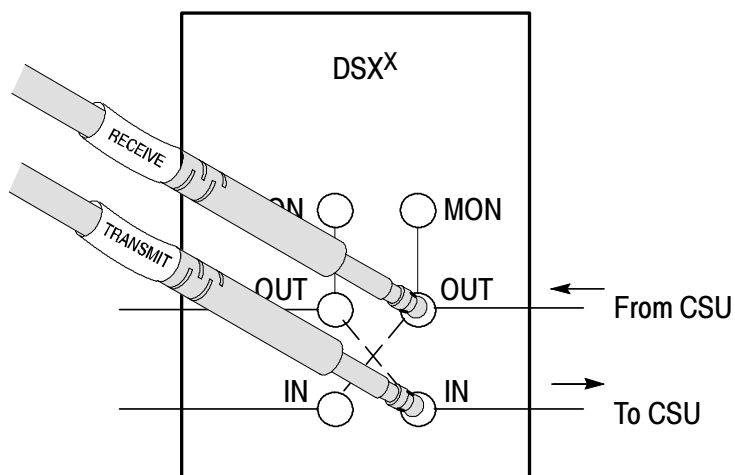

Figure 3-3: Typical connections for terminating a T1 circuit
3. Connect the **Transmit** Bantam plug to the **IN** side of the service access as shown in Figure 3-3.
4. Connect the **Receive** Bantam plug to the **OUT** side of the service access as shown in Figure 3-3.